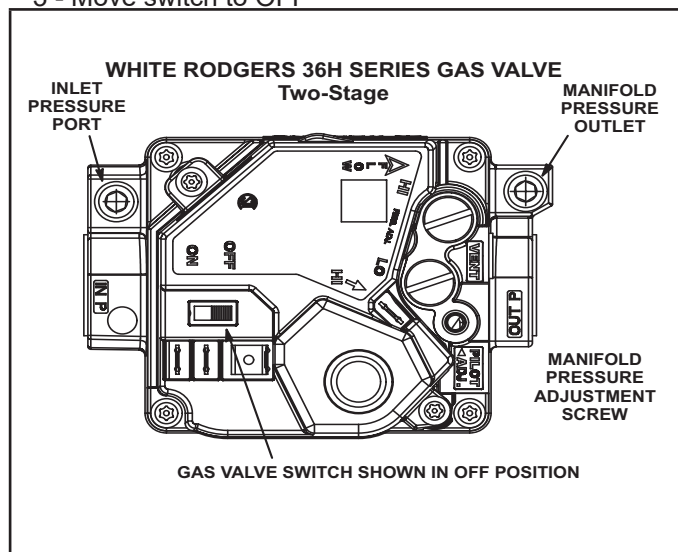
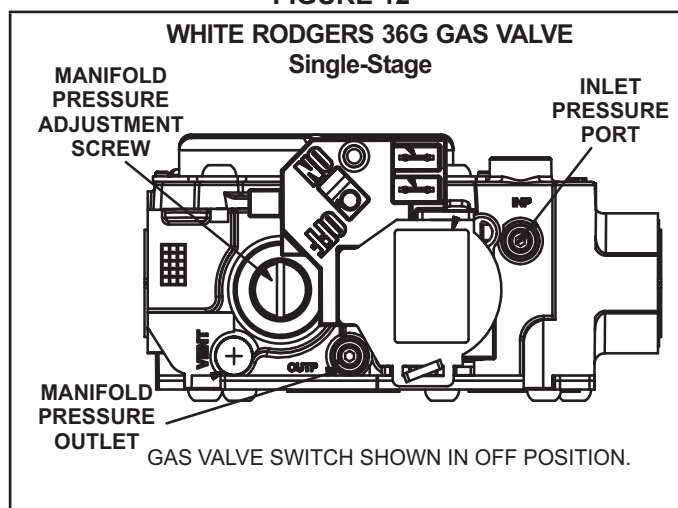

FIGURE 12
FIGURE 13
OPERATION OF WHITE RODGERS 36H SERIES VALVE (FIGURE 12) AND WHITE RODGERS 36G SERIES GAS VALVE (FIGURE 13)
For White Rodgers 36G valve (Figure 13), an inlet post located on the gas valve provides access to the supply pressure. Open the inlet port by backing out the 3/32" hex screw one turn. Connect a piece of tubing over the inlet post and route to a measuring device to measure supply pressure.
For White Rodgers 36H valve (Figure 12), supply pressure is accessed by removing 1/8" hex screw. Remove the 1/8" hex screw and install a 1/8" fitting with hose barb. Connect tubing from the barbed fitting and route to measuring device to measure supply pressure.
For White Rodgers 36G valves (Figure 13), turn the manifold 3/32" hex screw one revolution back into the gas valve.
For White Rodgers 36H valves (Figure 12), remove manifold barbed fitting and reinstall the 1/8" hex screw.
- For White Rodgers 36G valves (Figure 13) manifold pressure, back out the 3/32" hex screw one turn, connect a piece of 5/16" tubing and connect to the "+" side of the measuring device.
- For White Rodgers 36H valves (Figure 12) manifold pressure, remove the 1/8" hex screw, install 1/8" fitting with hose barb, connect hose from barb to "+" side of measuring device.
- 5 - If necessary, make adjustments. Figure 12 and 13 show adjustment screw(s) locations.
- For White Rodgers 36G valves (Figure 13), turn the manifold 3/32" hex screw one revolution back into the gas valve.
- For White Rodgers 36H valves (Figure 12), remove 1/8" fitting with hose barb and reinstall 1/8" hex screw.